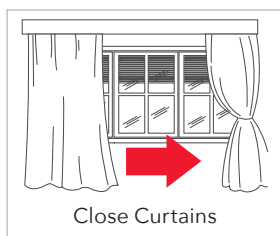

Fig. 16
- Protect the room from direct exposure to the sun by partially closing curtains and/or blinds to make the appliance much more economical to run (► Fig. 16).